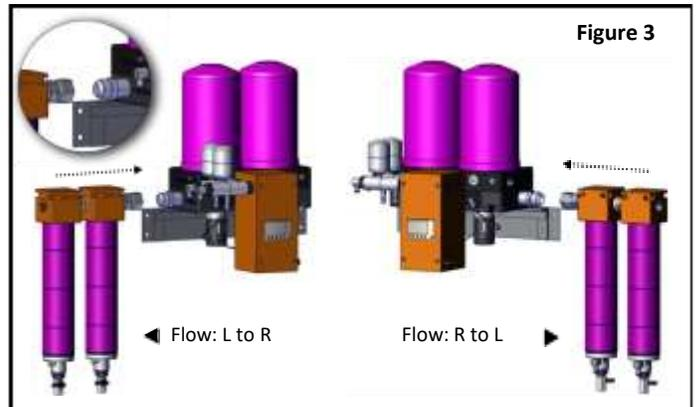

Figure 3
4. Using an adjustable or 1-3/8" wrench, connect the supplied FEMALE JIC fitting to the outlet port of the Tsunami pre-filter assembly. Use appropriate thread sealant. *Figure 3*
6. Using the appropriate thread sealant, install the MALE JIC connector to either the left or right INLET / AUX port of the dryer. *Figure 3*